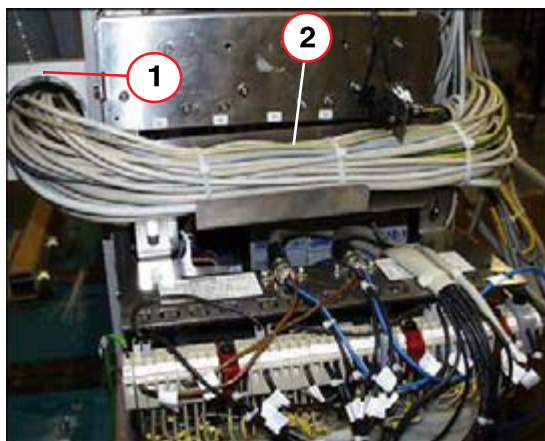

Fig. 20: Holder on the lifting base
- Use the supplied holder (1/Fig. 20 / p. 21) to connect the corrugated hose to the lifting base and position the cable according to (2/Fig. 20 / p. 21).